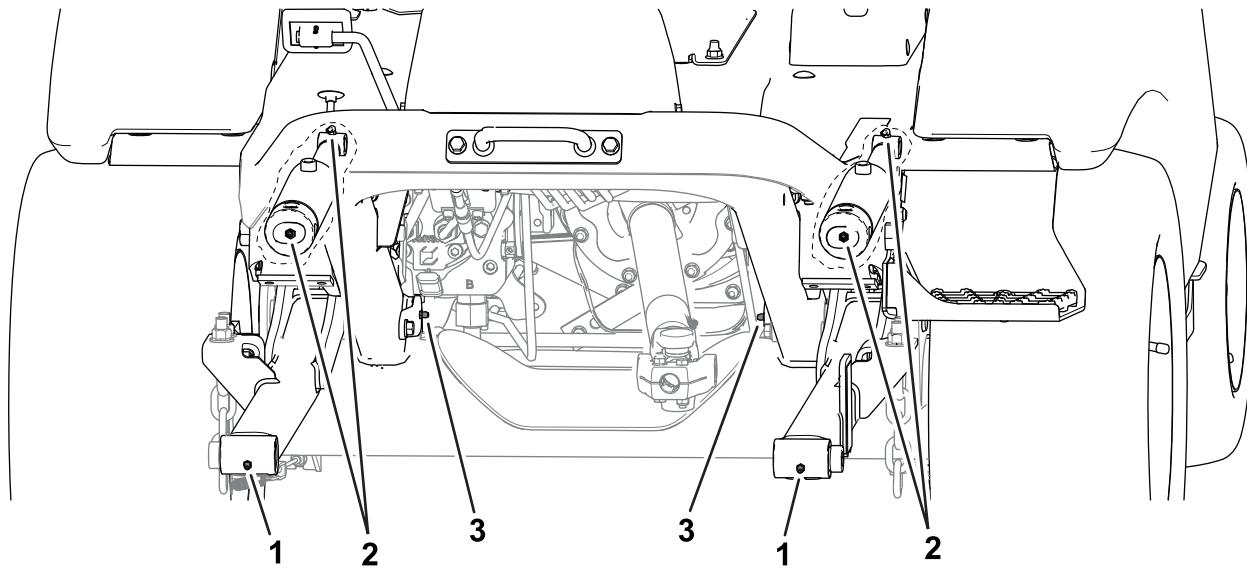

Figure 46
- Front of the machine (Figure 46):
- Attachment pivot hubs (2)
- Lift-cylinder bushings (2)
- Lift-arm pivot pins (2)